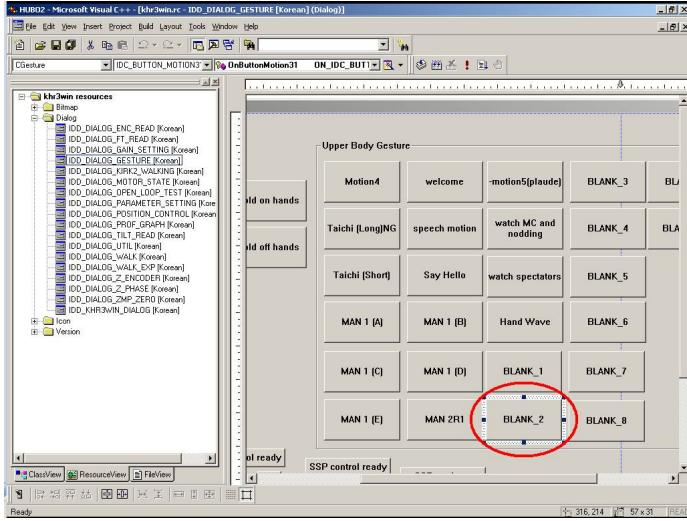

Figure 31: Double click on the button you want to edit. In this example we will be editing *BLANK_2*.
6. Double click on the button you want to edit. In this example we will be editing *BLANK_2*, see Figure 31.